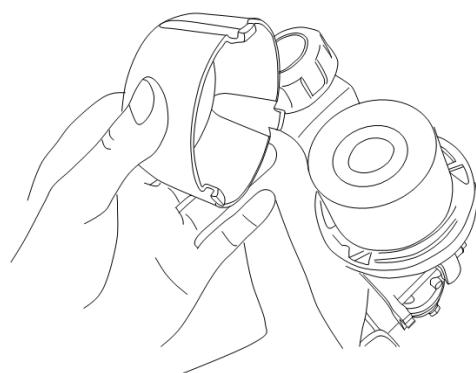

Fig.19
- 2) Remove the filter from its housing and tap it on a solid surface to remove dust (Fig. 19).